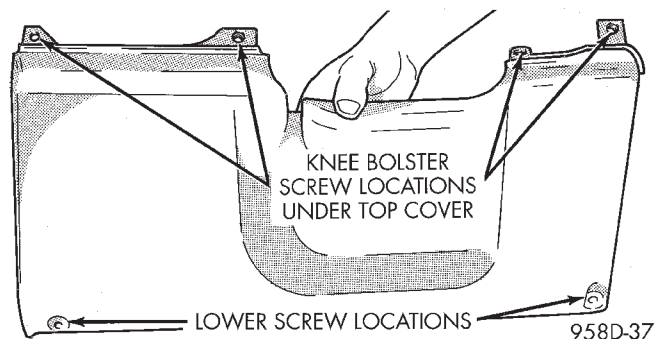

Fig. 13 Knee Bolster Attaching Points
(10) Pull instrument panel top cover up enough to gain access to knee bolster screws (Fig. 13).